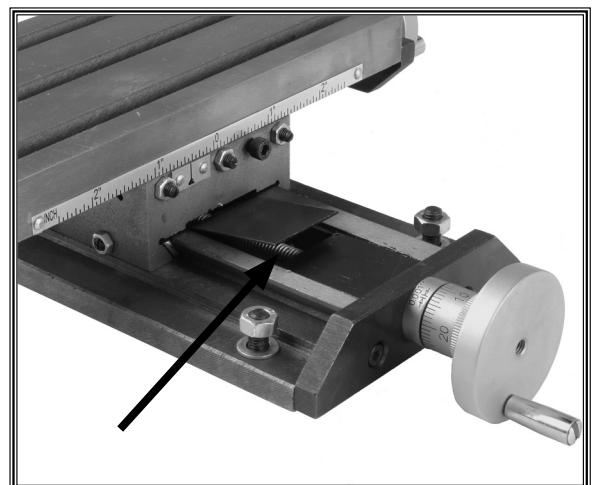

Figure 28. Crossfeed leadscrew.
- Crossfeed leadscrew (**Figure 28**)